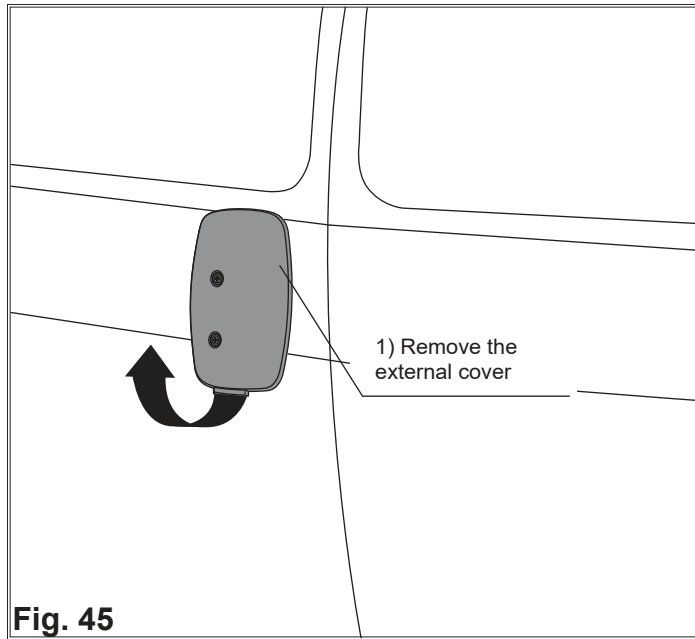

Fig. 45
1. Remove the cover, if present, (Fig. 45).